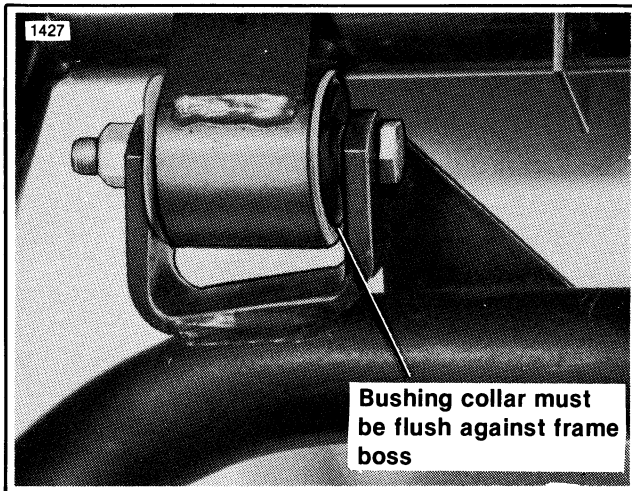

Figure 2-27. Rear Fork Bushing
2. See Figure 2-27. Check the rear fork bushing for wear and make sure the bushing collar is flush against the frame boss.